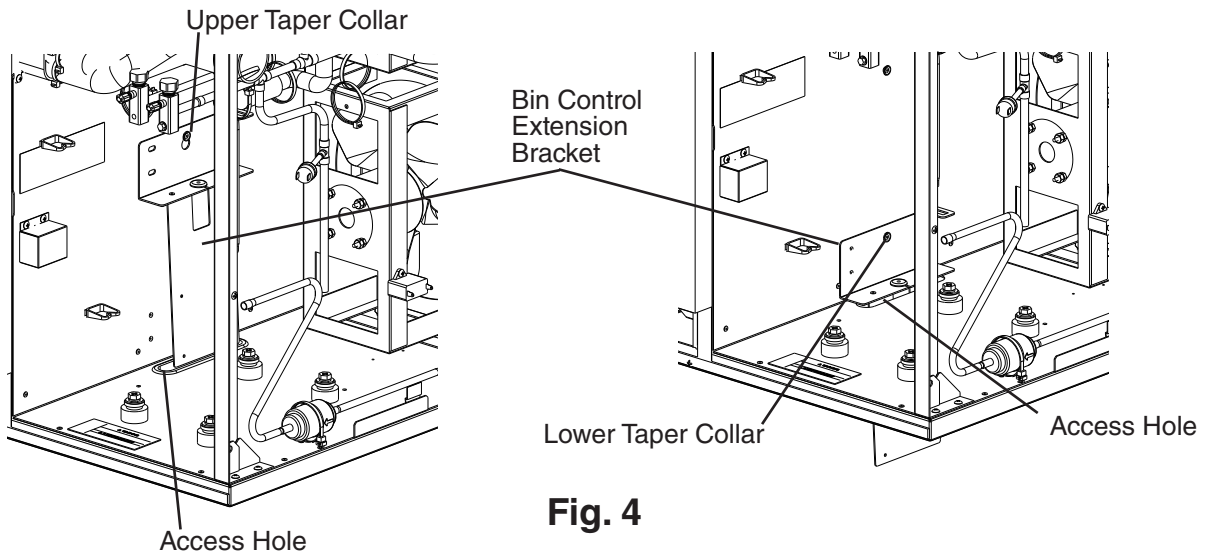

Fig. 4
- 3) Remove the bin control extension bracket from the upper taper collar and lower it into the access hole and secure it on the lower taper collar. See Fig. 4. Note: Be sure to secure the bin control extension bracket onto the lower taper collar.